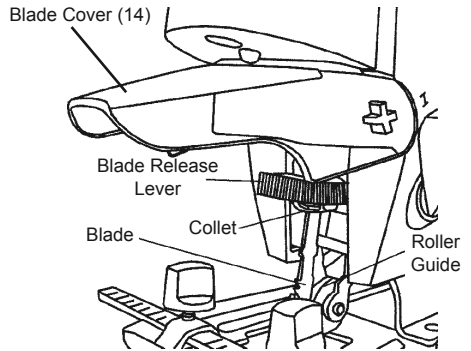

Figure 1
2. Once the proper blade (sold separately) is selected, lift the Blade Cover (14) up to access the Blade Release Lever. See Figure 1, below.